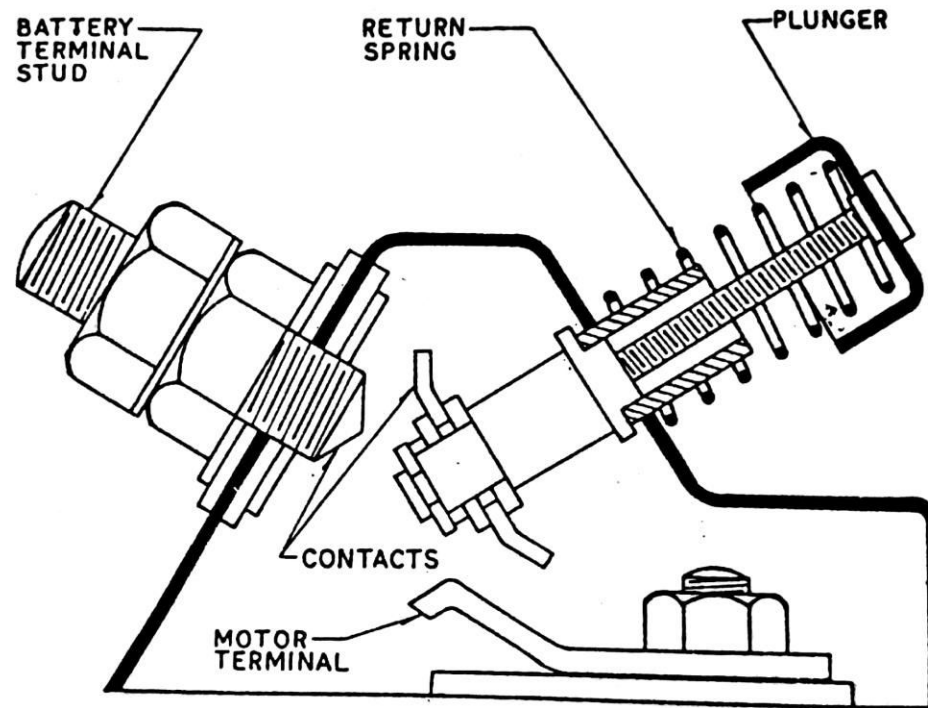

Fig. 17.18. Manual switch.
8.1. Manual Switch (Fig. 17.18)